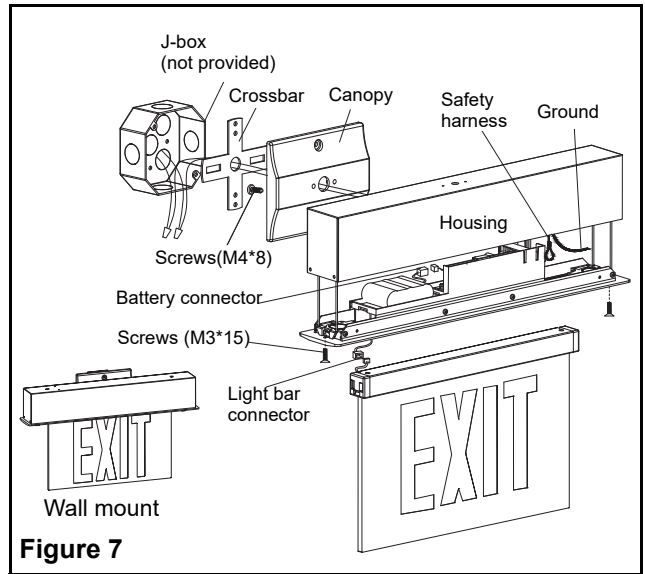

Figure 7
5. Unscrew (4) four screws holding the j-box / housing assembly together.
10. Using provided screws, tighten canopy to the crossbar (see figure 7)
11. Open trimplate and connect the battery wire (see fig.7 & 8).
13. Connect the light bar connector and snap the light bar into the trimplate (see fig.7 & 8).